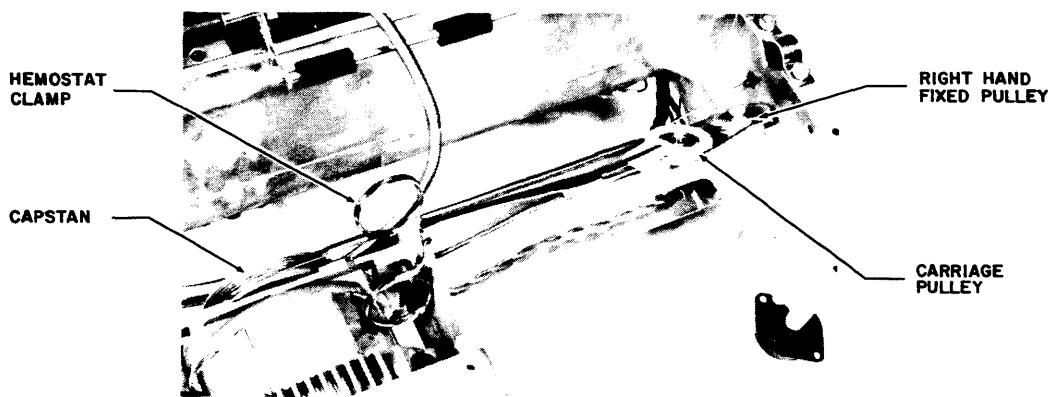
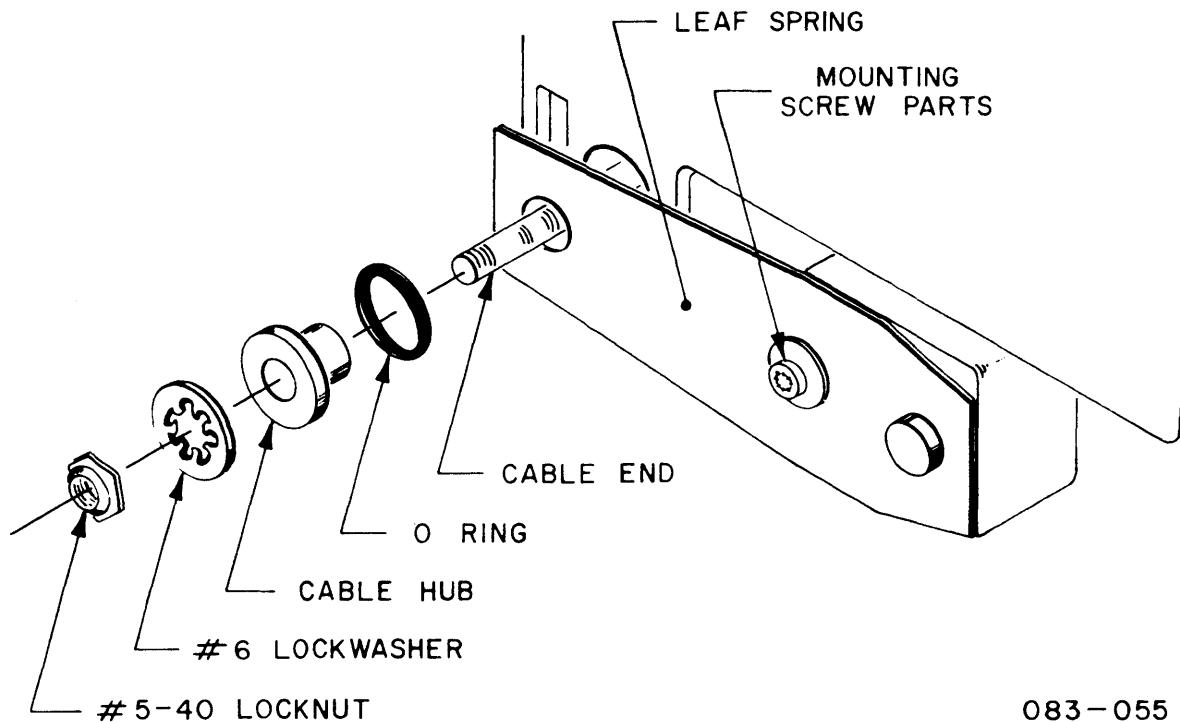

Figure 3-17. Right-Hand Carriage Drive Cable Installation
Figure 3-18. Carriage Drive Cable Tension Spring Assembly
- (8) Refer to Figure 3-17. From the capstan, arrange the cable back to the right around the right side pulley CW (bottom rear to front top), and to the left and CW (front to back) around the carriage drive pulley, with the cable in the drive pulley's upper groove. It will be necessary to allow the capstan to rotate slightly.
- (9) Protect the carriage drive pulley with heavy paper, and grasp it with a hemostat clamp as shown in Figure 3-17. Hook the hemostat clamp's lower finger ring over the main frame servo motor shield as shown, where the motor's magnetism will help to hold it in position. Rotate the capstan CCW to keep a slight tension on the cable, and to locate the notch on the capstan's inside rim (closest to the motor) as near the top as possible.
- (10) Place the ball end of the second cable between the capstan and the main frame at the lowest point of the capstan (the ball will not fit between the capstan and the main frame at any other point). Pull the cable up until the ball can be inserted into the notch on the capstan's inside rim and insert the ball into the notch. Run the cable directly over to the left side pulley. There should be no more than 1/4 turn of this cable on the capstan.
- (11) Arrange the cable around the left side pulley CCW (bottom rear to top front), and back to the right. Carefully route the cable CCW (front to back and back to left) around the carriage pulley in the lower slot of the pulley. Stretch the cable to the left, and thread its free end out through the cable hole in the left side frame.
- (12) Assemble the hardware items on the free end of the cable, as it protrudes beyond the side of the frame, in the order shown in Figure 3-18. Put the locknut on finger tight only, and avoid twisting the cable.
- (13) Refer to Figure 3-18. Mount the leaf spring onto the side frame with the screw, flat washer, and lockwasher. Use a TORX T15 screwdriver to tighten the screw down slightly and apply a light spring tension on the cables.